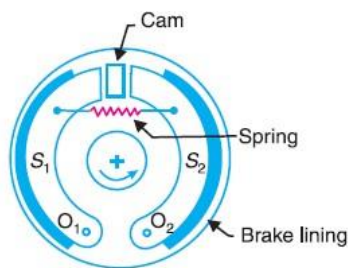

Fig. 19.24. Internal expanding brake.
19.24. The outer surface of the shoes are lined with some friction material (usually with Ferodo) to increase the coefficient of friction and to prevent wearing away of the metal. Each shoe is pivoted at one end about a fixed fulcrum  $O_1$  and  $O_2$  and made to contact a cam at the other end. When the cam rotates, the shoes are pushed outwards against the rim of the drum. The friction between the shoes and the drum produces the braking torque and hence reduces the speed of the drum. The shoes are normally held in off position by a spring as shown in Fig. 19.24. The drum encloses the entire mechanism to keep out dust and moisture. This type of brake is commonly used in motor cars and light trucks.